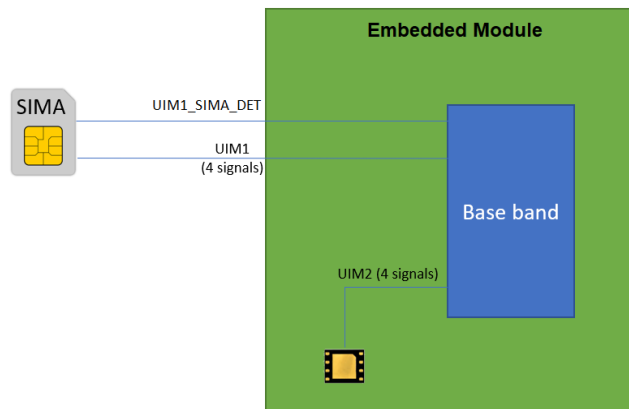
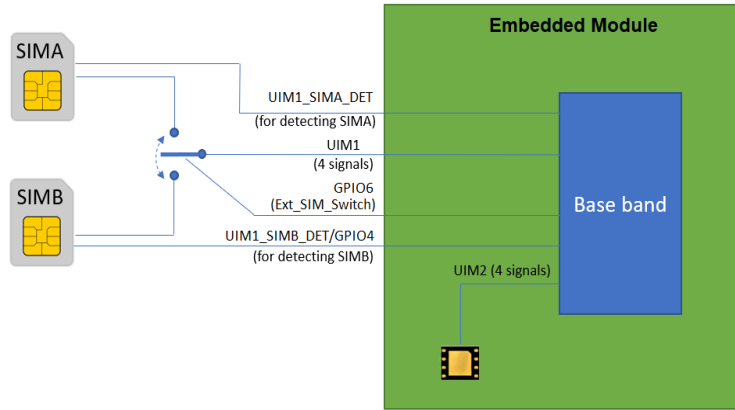

Figure 4-3: Single External SIM Configuration
Figure 4-4: Dual External SIM Configuration
- UIM1 — this interface allows control of 1.8V or 2.85V UIMs. For RC7611, RC7611-1, RC7611D, RC7611D-1, RC7612, RC7612-1, RC7620, RC7620-1, RC7630, RC7630-1, and RC7630J* it also supports single or external dual SIMs. For usage details, see Figure 4-3 and Figure 4-4.
Note: Figure 4-3 illustrates the recommended implementation of a single external SIM configuration. For a detailed UIM schematic, see Figure 5-8.
Note: Figure 4-4 illustrates the recommended implementation of a dual external SIM configuration. For a detailed external SIM schematic, see Figure 5-9.